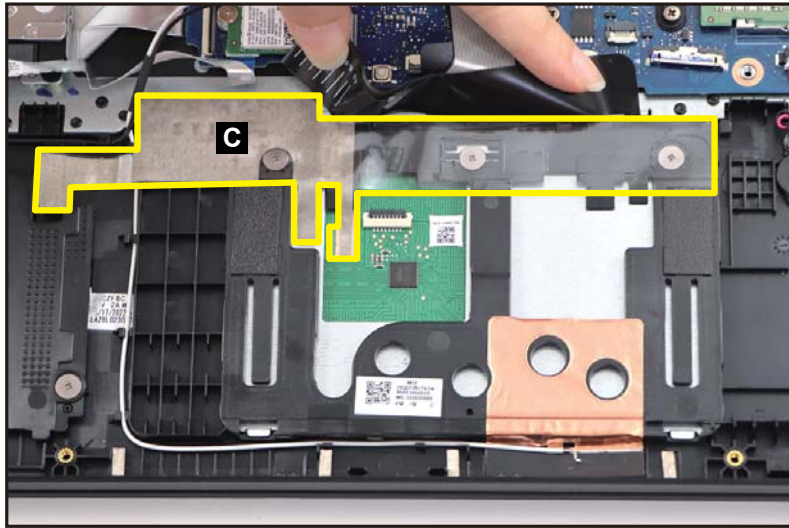

Figure 1-11. Touchpad Module Removal
3. Lift slightly the mylar. Then detach the conductive tape (C) from the touchpad module and top assembly (Figure 1-11).